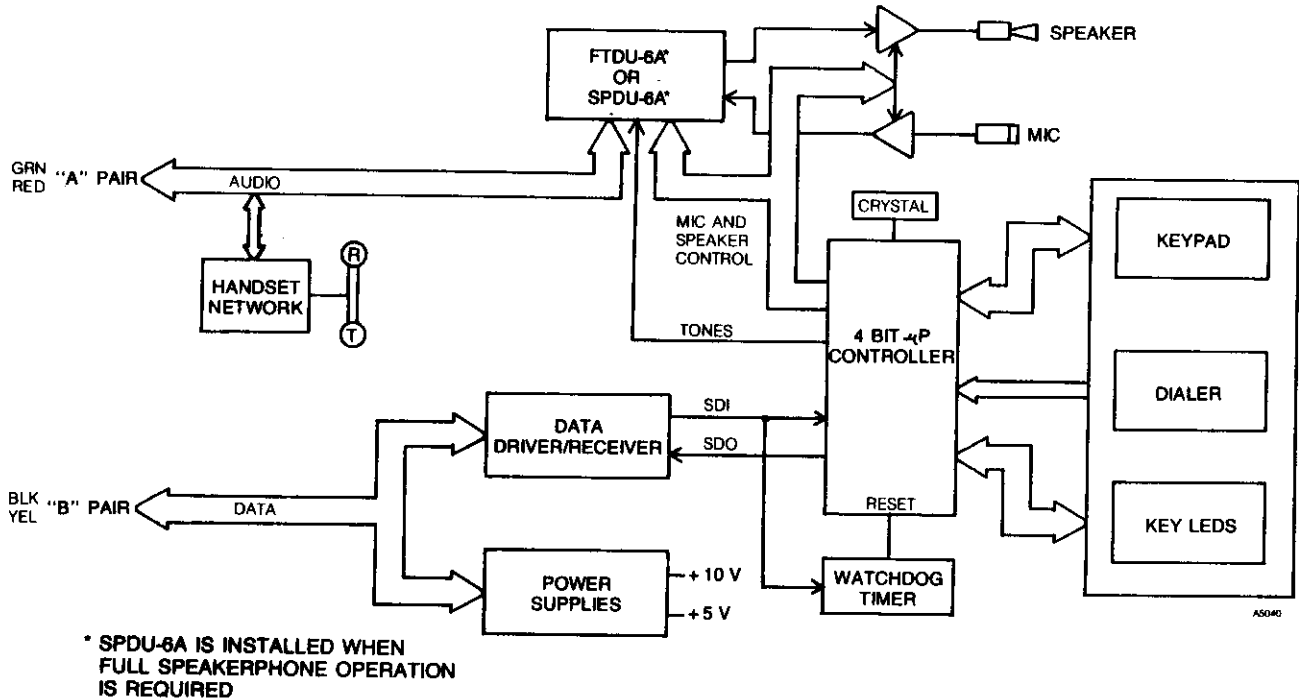

Figure 7-11 STANDARD KEY TELEPHONE BLOCK DIAGRAM, EK-616
8.01 The Standard Key Telephone (Figure 7-11) is a multifunction, microprocessor based key telephone instrument. The telephone has a handset; a microphone and speaker for Handsfree functions; a dial pad; and special keys for CO lines and special functions. Most keys use LEDs to indicate key status.